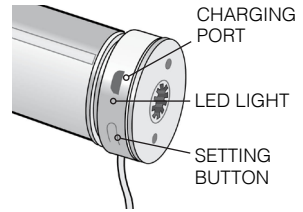

Figure 6: Motor Head
- Insert the charging cord into the charging port on the end of the shade tube **[Figure 6]**, and plug the other end of the power adaptor into an outlet. The LED light at the end of the shade tube will blink green when the battery is charging and will show solid green when fully charged.
2. **Press & hold the Setting Button [Figure 6]** on the shade motor head until the shade jogs once. Let go, and you'll hear a long beep.
4. Check the motor by pressing the setting button on the motor head **[Figure 6]**.
If for some reason the shade direction is reversed, press and hold the Setting Button on the motor head until the shade jogs 3 times **[Figure 6]**.
1. Press & hold the Setting Button on the shade motor head until the shade jogs 4 times then beeps 3 times **[Figure 6]**. This removes all programming.